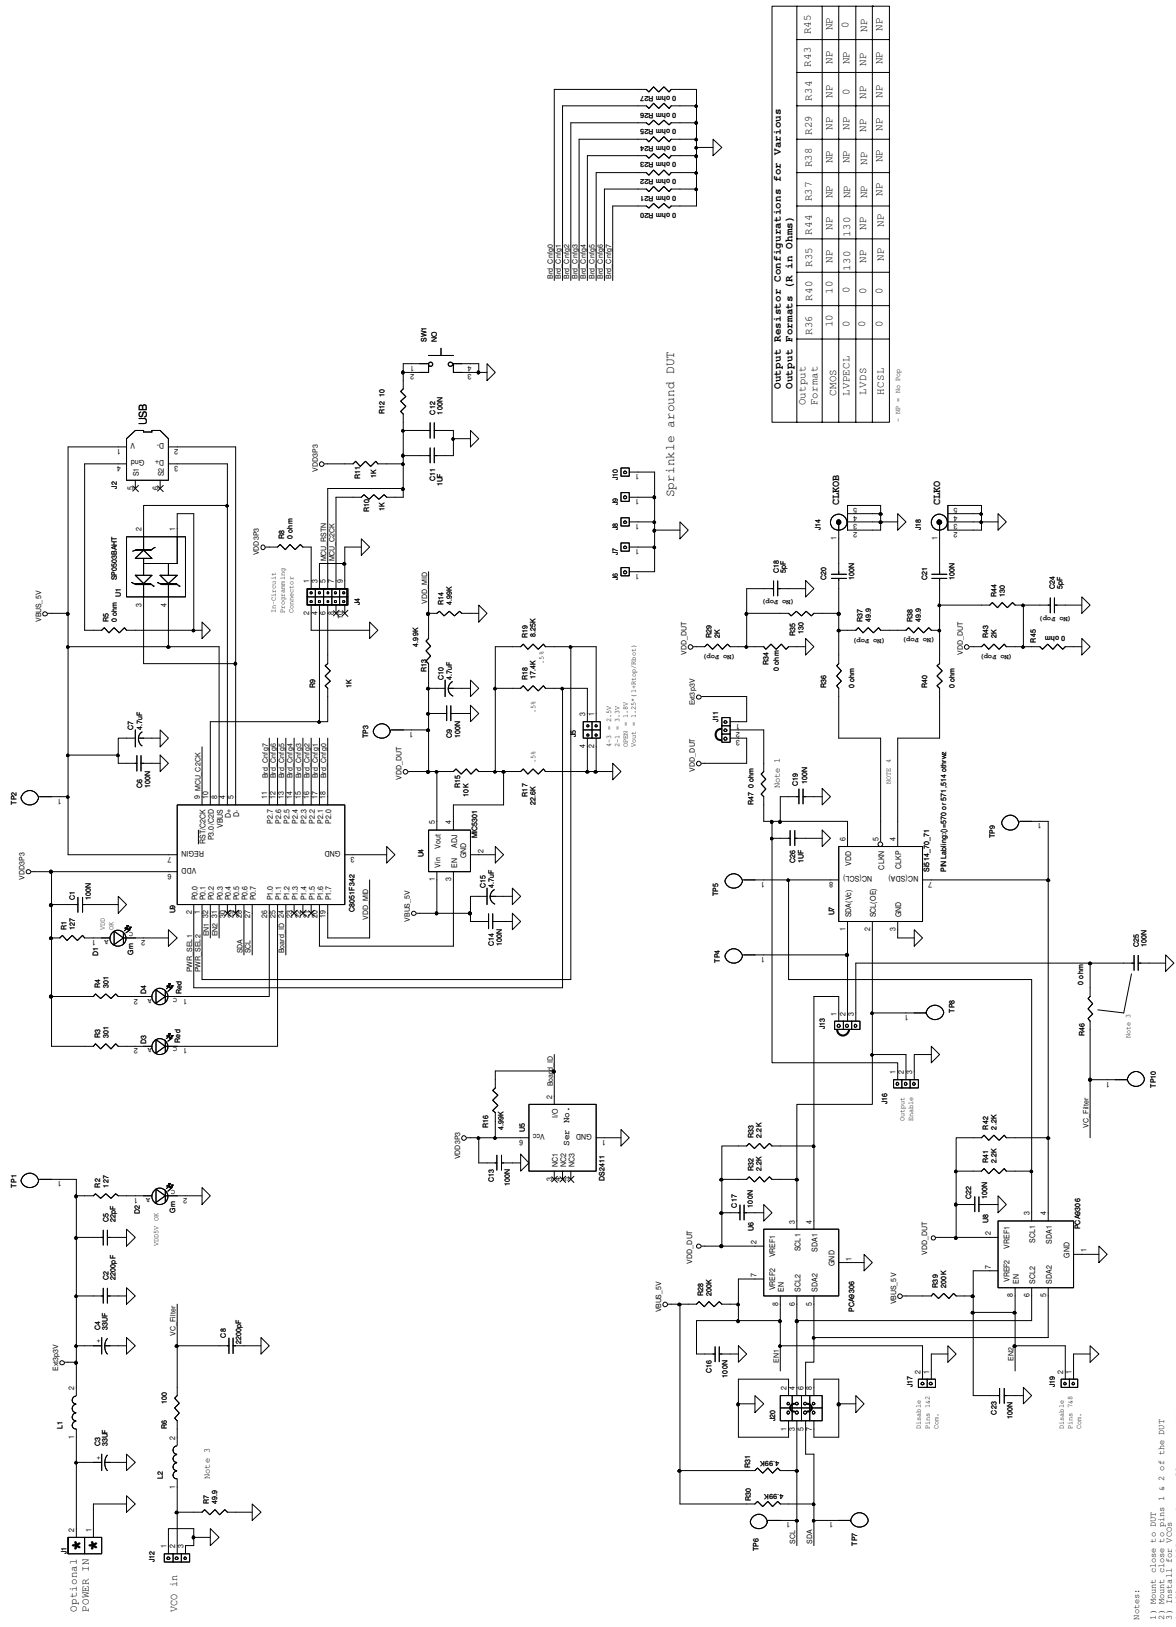

Figure 4. Si5xx-PROG-EVB (Universal I²C XONC XO)
- Updated Figure 4 on page 11 (schematic).